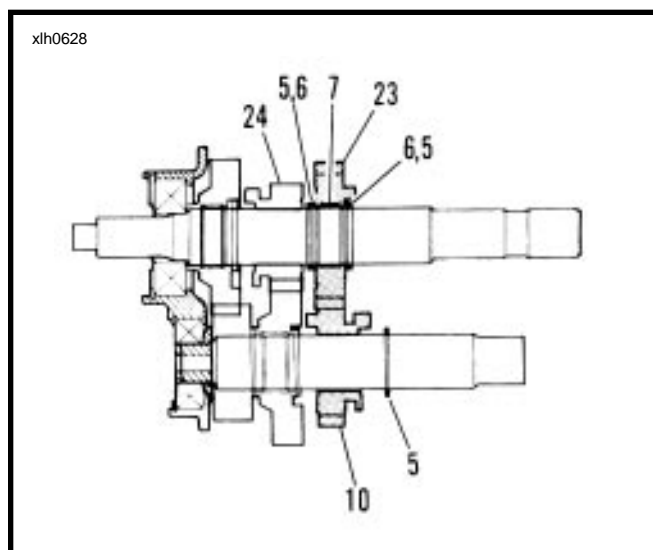

Figure 6-24.
4. See Figure 6-24. Remove retaining ring (5) next to countershaft 3rd gear (10). Slide countershaft 3rd gear (10) off free end of shaft.
5. At mainshaft, between mainshaft 1st gear (24) and mainshaft 3rd gear (23), expand retaining ring (5) and move next to mainshaft 1st gear along with thrust washer (6). Move mainshaft 3rd gear as far as possible toward mainshaft 1st gear (24). Expand retaining ring (5) at opposite side of mainshaft 3rd gear and slide off end of shaft. Remove mainshaft 3rd gear (23) and its split bearing (7).
6. Slide thrust washer (6) off end of mainshaft. Expand retaining ring (5), which is next to mainshaft 1st gear (24), and slide off end of shaft.